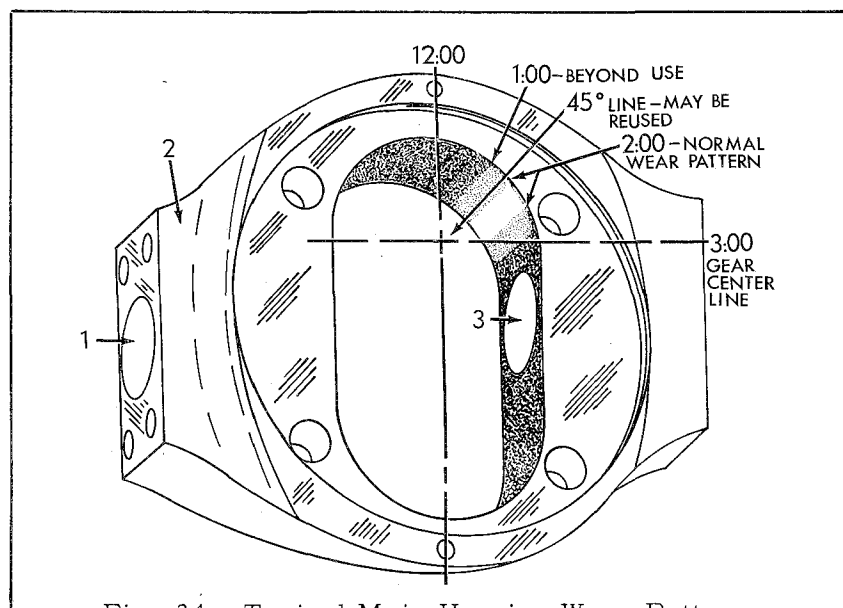

Fig. 34 - Typical Main Housing Wear Pattern
8. Inspect main housing for wear. Fig. 34, if wear pattern extends no closer to 12:00 than the 45° line, housing may be re-used. If however, wear pattern extends to the 1:00 area, housing must be considered worn out. If housing is to be re-used, turning the housing over to put the wear on the pressure side will help, but only for a very short while. When housing is worn on one side the pressure supporting-----
Page 31 - Fig. 34 - Typical Main Housing Wear Pattern